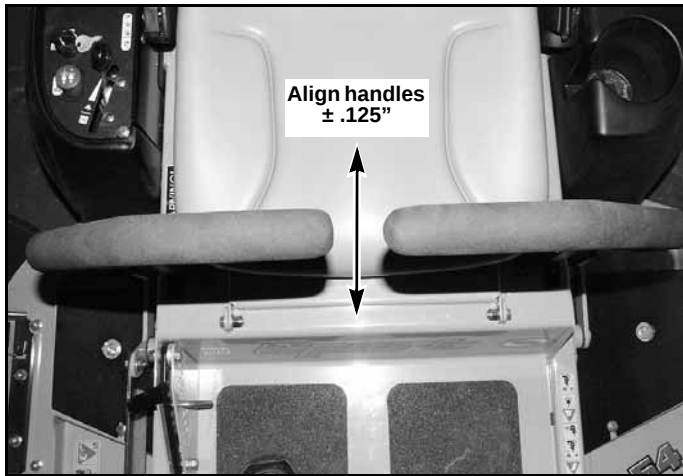

Figure 4-4
16. The steering control levers should be adjusted so that they align vertically with each other when in the neutral position (Figure 4-4). Space between ends of steering control handles to be $.50'' \pm .25''$. Figure 4-4